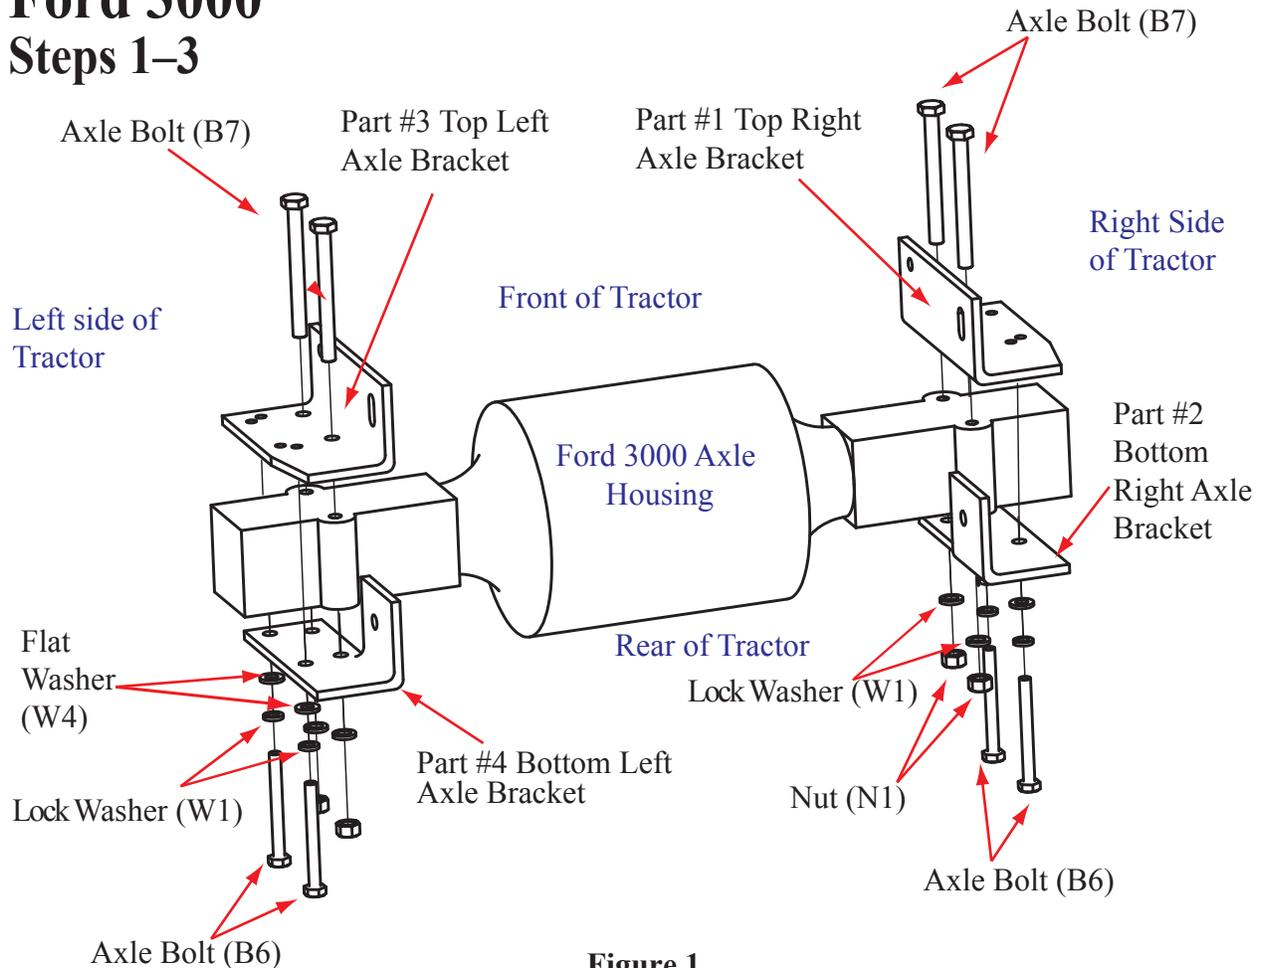

Figure 1
Step 1. Read the “special notes” section on page 5. Place the top right axle bracket (#1) on top of the right axle. Align the two unthreaded holes in the axle bracket with the two holes of the tractor axle. Insert two axle bolts (B7) down through the axle bracket and through the holes of the tractor axle. (Figure 1)
Step 2. Align and install the bottom right axle bracket (#2) to the bottom of the tractor axle using the four-hole bolt pattern of the axle bracket and the two bolts inserted in step 1. If needed for a draw bar link, install a bottom right lower link support bracket to the axle bolts (B7) and the bottom surface of the bottom right axle bracket (#2). Install lock washers (W1) and nuts (N1) to axle bolts (B7). Place a lock washer (W1) and then a flat washer (W4) onto the two axle bolts (B6). Insert bolts (B6) up through the bottom right axle bracket (#2) and thread into the top right axle bracket (#1). Tighten bolts and nuts until axle brackets are “snug fit” to axle. (Figure 1)